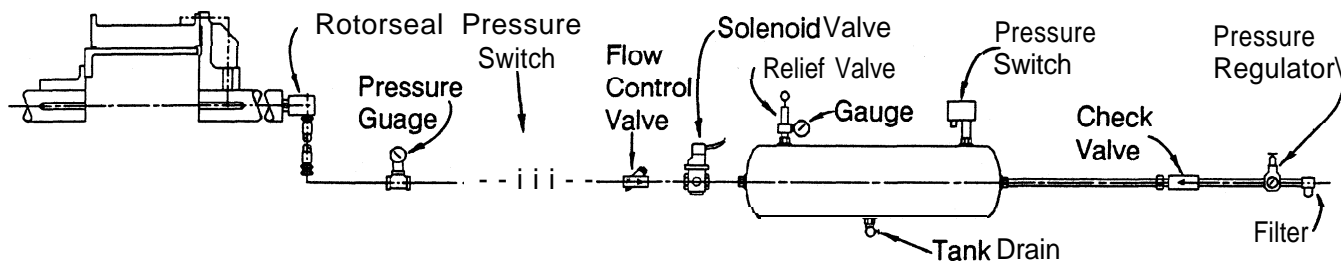

Fig. 12
2.7.1 A typical air control system is shown on Figure 12. Since the air control system used will be dependent on the specific application, a detailed description cannot be made in this manual. Following are some general guidelines for installing and adjusting air controls.